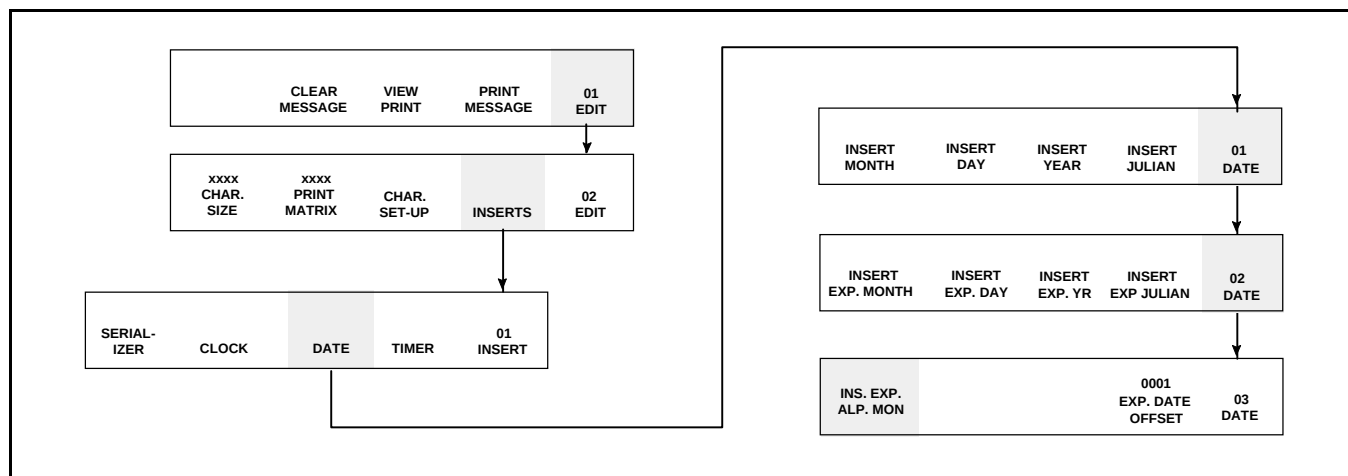

Figure 6-29. Accessing Frame <04 DATE>
1. Begin in Frame <03 DATE>. Refer to Figure 6-29.